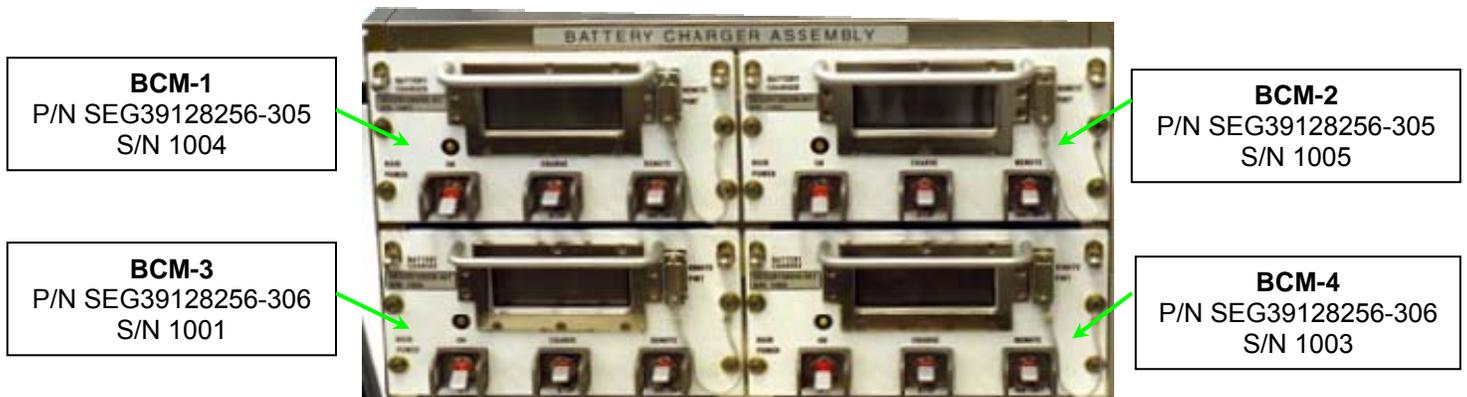

Figure 9.- Final BCM Configuration.
11.7 Verify BCM Configuration per Figure 9.
- 17.1 Update BCM labels for new configuration (Gray Tape, Sharpie). Refer to Figure 9.